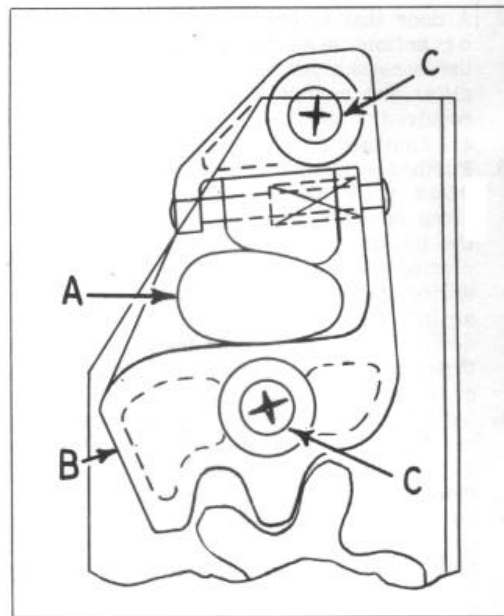

FIGURE 23
2. If the door lifts as the dovetail (A), Figure 23, enters the door striker assembly, (B) the striker is too high and must be lowered.